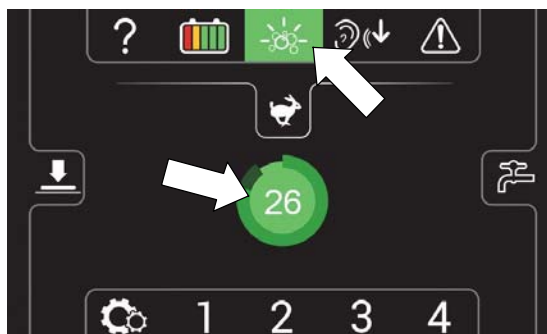

FIG. 51
6.  Models equipped with Severe Environment option - Press the Severe Environment icon once to dispense cleaning detergent for 30 seconds. The icon will turn green and a 30 second count down timer will start. For continuous dispensing of detergent, press and hold the icon for 2 seconds until a continuous timer is displayed. Press the icon at anytime to turn off. (Figure 51). The icon will blink yellow when the severe environment tank needs to be refilled.